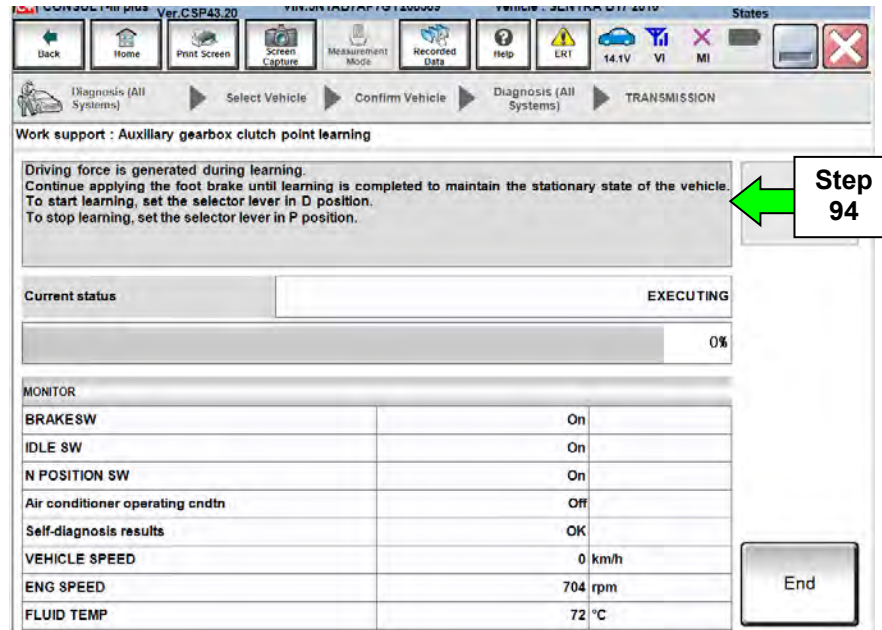

Figure 52
- Figure 52 will be displayed after shifting into **D** position.